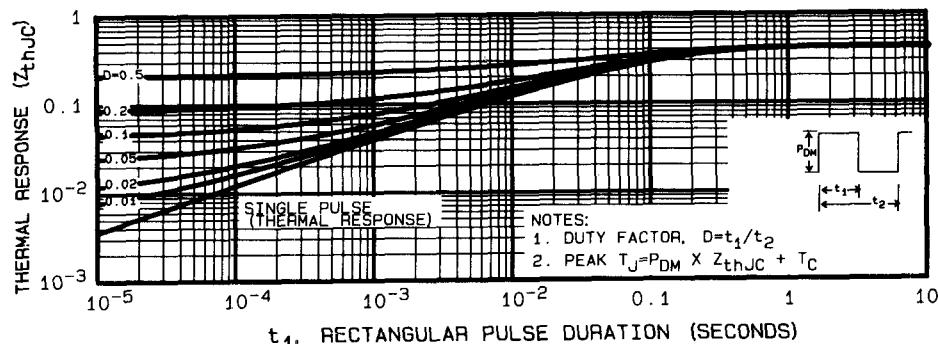

Fig. 5 - Maximum effective transient thermal impedance, junction-to-case vs. pulse duration.
① Repetitive Rating: Pulse width limited by maximum junction temperature (see figure 5)
③ Pulse width ≤ 300 μs; Duty Cycle ≤ 2%
② @  $V_{DD} = 50V$ , Starting  $T_J = 25^\circ C$ ,  $L = 2.8 \text{ mH}$ , Peak  $I_L = 25A$ ,